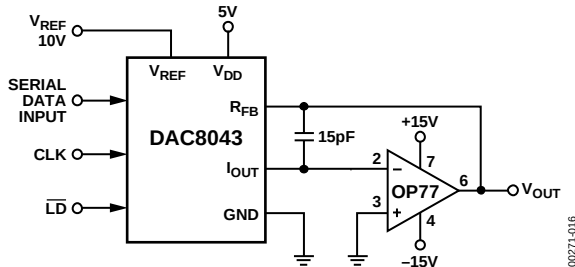
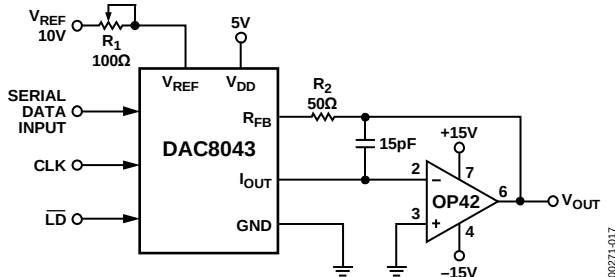
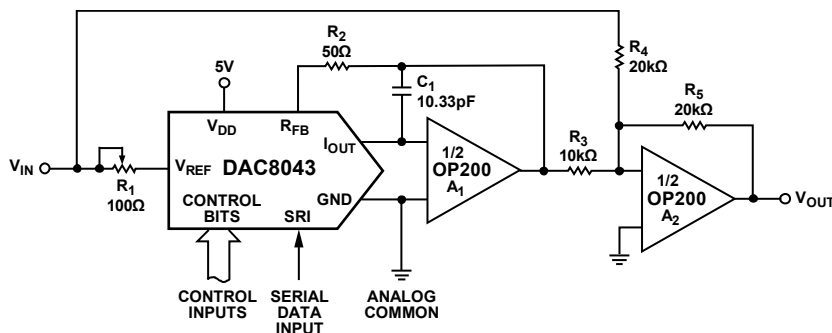

Figure 16. Unipolar Operation with High Accuracy Op Amp (2-Quadrant)
Figure 17. Unipolar Operation with Fast Op Amp and Gain Error Trimming (2-Quadrant)
Figure 19. Bipolar Operation (4-Quadrant, Offset Binary)
1. Phase compensation (see Figure 16 and Figure 17).
In most applications, linearity depends upon the potential of the I_{OUT} and GND pins being equal to each other. In most applications, the DAC is connected to an external op amp with its noninverting input tied to ground (see Figure 16 and Figure 17). The amplifier selected should have a low input bias current and low drift over temperature. The amplifier's input offset voltage should be nulled to less than 200 μ V (less than 10% of 1 LSB).
The circuits shown in Figure 16 and Figure 17 may be used with an ac or dc reference voltage. The output of the circuit ranges between 0 V and approximately $-V_{REF}$ (4095/4096), depending upon the digital input code. The relationship between the digital input and the analog output is shown in Table 6. The limiting parameters for the V_{REF} range are the maximum input voltage range of the op amp or ± 25 V, whichever is lowest.
Gain error may be trimmed by adjusting R_1 , as shown in Figure 17. The DAC register must first be loaded with all 1s. R_1 may then be adjusted until $V_{OUT} = -V_{REF}$ (4095/4096). In the case of an adjustable V_{REF} , R_1 and R_2 may be omitted, with V_{REF} adjusted to yield the desired full-scale output.
¹ Nominal full scale for Figure 16 and Figure 17 circuits is given by
² Nominal LSB magnitude for Figure 16 and Figure 17 circuits is given by
Figure 19 details a suggested circuit for bipolar, or offset binary, operation. Table 7 shows the digital input to analog output relationship. The circuit uses offset binary coding. Two's complement code can be converted to offset binary by software inversion of the MSB or by the addition of an external inverter to the MSB input.
MSB LSB	(V _{OUT} as Shown in Figure 19)
¹ Nominal full scale for Figure 19 circuits is given by
² Nominal LSB magnitude for Figure 19 circuits is given by
The transfer function for the DAC8043 connected in the multiplying mode, as shown in Figure 16, Figure 17, and Figure 19, is